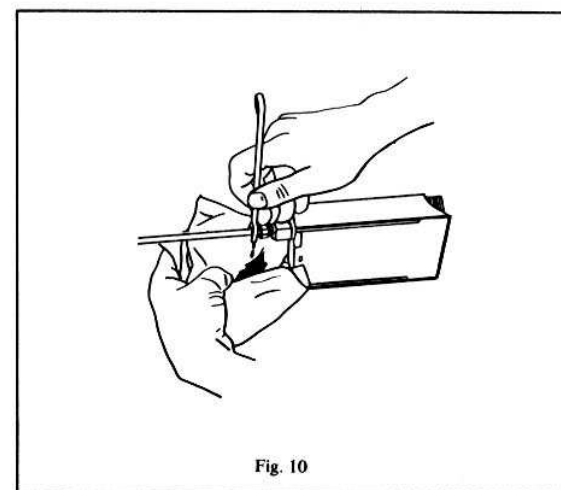

Fig. 10
4. Bleed line as follows: (See fig.10)